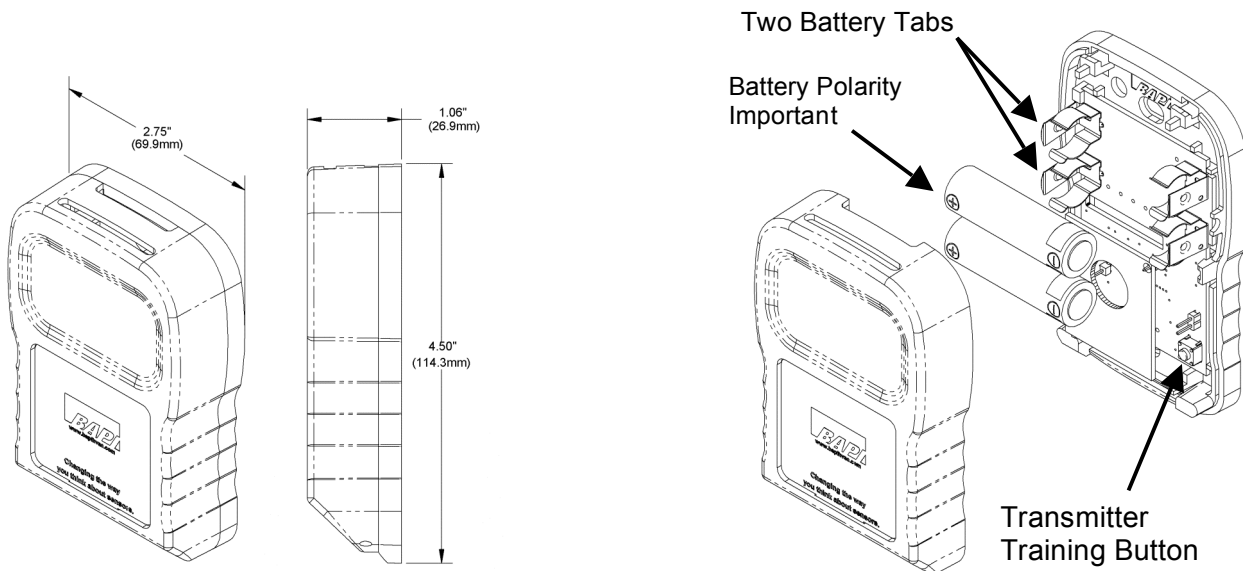

Figure 1: Wireless Temperature Transmitter
7. Remove the battery tabs (see Figure 1) or install the batteries to start the sensor transmitting.
3. Remove the cover of the transmitter and remove the battery tabs or install the batteries, observe polarity. The small LED at the bottom right, next to the Transmitter Training Button in Figure 1, should flash approximately once every 10 seconds. (The flash is very quick.)